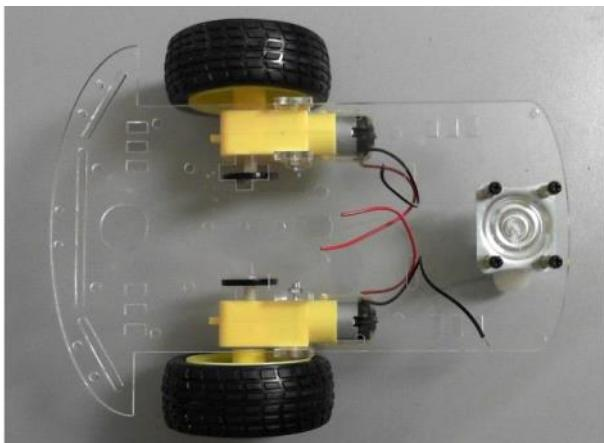

Figure 6.28 – The assembled chassis
- We should now have a robot that looks like *Figure 6.28* (motor brackets vary):